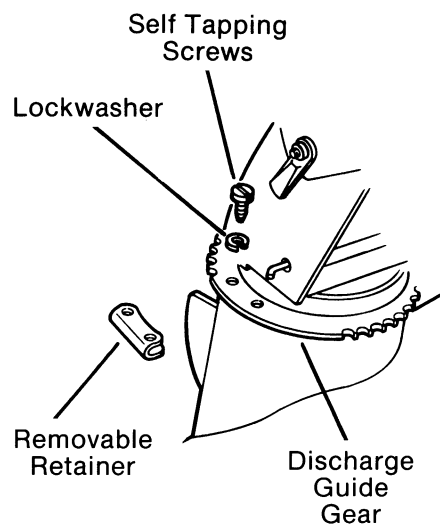

FIG. 8
- J. Remove the removable retainer from the bottom of the discharge guide gear, (Fig. 8) by removing two self tapping screws and lockwashers.
- K. Liberally apply No. 2 wheel bearing grease or Ford 1T-M1C137-A grease to the top surface of outlet tube and bottom surface of the discharge guide gear. (Fig. 8)